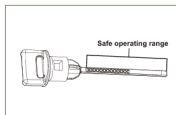

Fig.3
- The oil level must be maintained within the marked area of the dipstick, preferably near the upper-middle point of the indicated range. (Fig. 3)